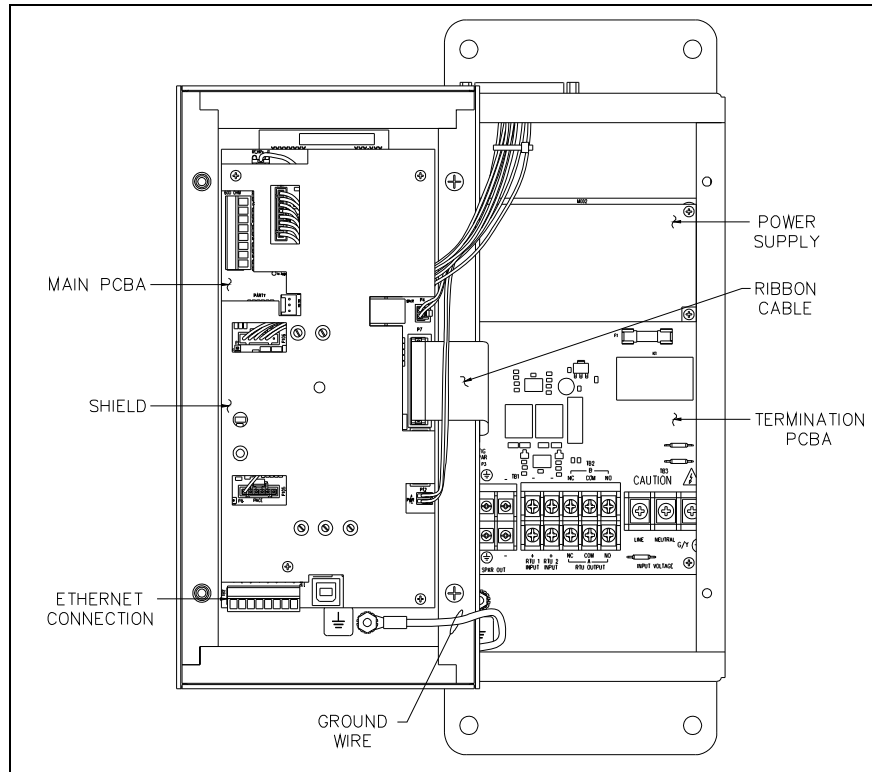

Figure 3. SP2 Ethernet remote subset Station—Interior View
2. Secure it to the ground terminal located in the lower left corner at the back of the rear enclosure (see Figure 3).